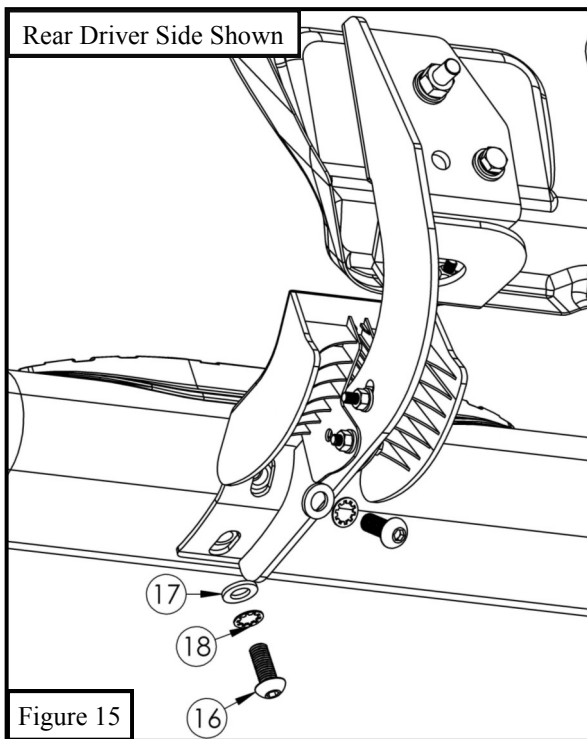

Figure 15
10. Loosely install the Step Bar (Item 1) to the previously installed mounting brackets with the supplied M10 hardware (Items 16-18). See **Figure 15**.